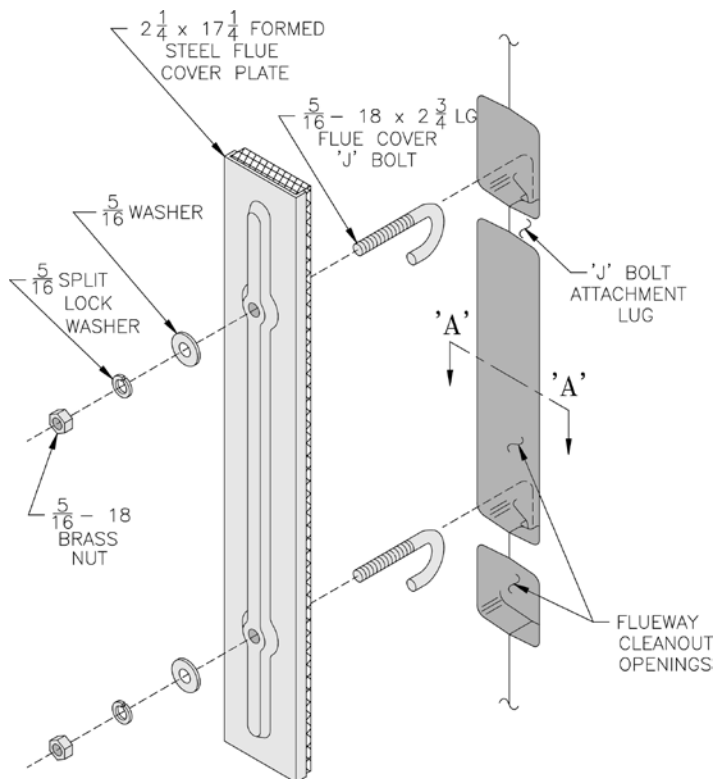

Figure 18: Flue Cover Plate Attachment
B. INSTALL FLUE COVER PLATES over cleanout openings on left side of boiler as shown in Figure 18.